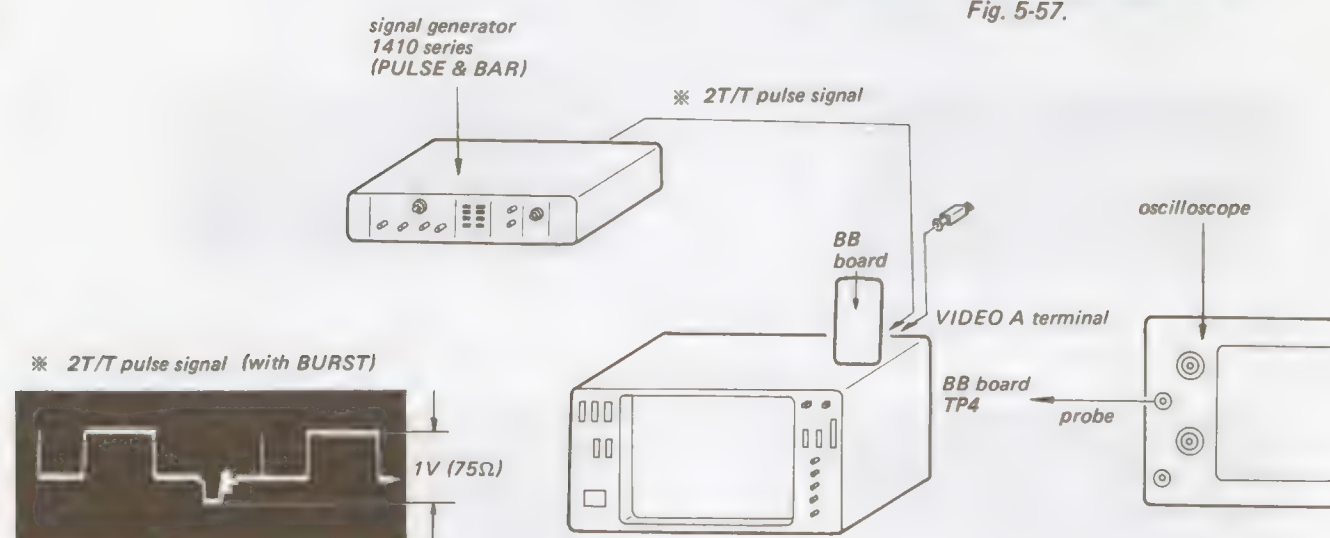

Fig. 5-58.
10. Complete the connections as shown in Fig. 5-58.